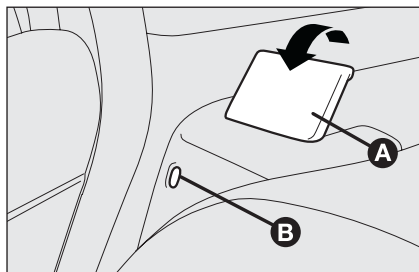

fig. 3
IMPORTANT When the seat back is coupled properly, the “red band” **B**-fig. 3 present aside lever **A** disappears. The “red band” actually indicates improper seat back coupling.
*Make sure the seat back is correctly hooked on both sides (“red bands” **B**-fig. 3 not visible) to prevent seat back being thrown forwards and injuring passengers should you brake sharply.*